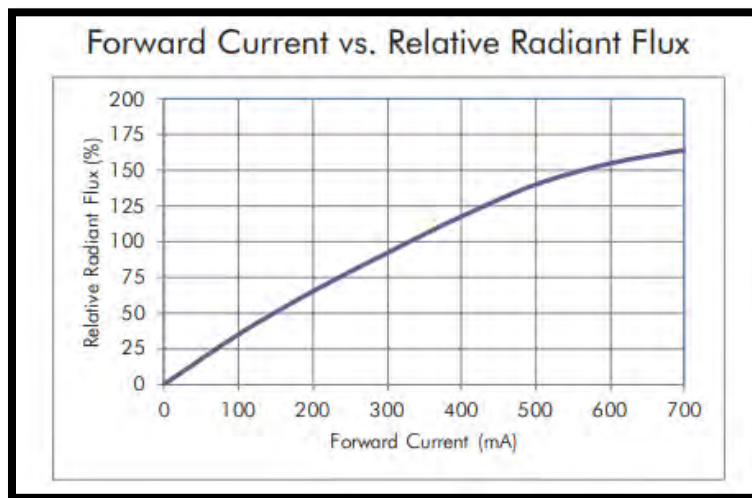

Figure 2: Relative radiant flux as a function of the driving current for a UV LED
- b) **Driving current:** Optical output of an LED is directly proportional to the driving current chosen as shown in the Figure 2 below. This would be the minimum output current required from the power supply (in case of a single LED product) and would determine the intensity of the light. Hence, this may be varied on the basis of the application.